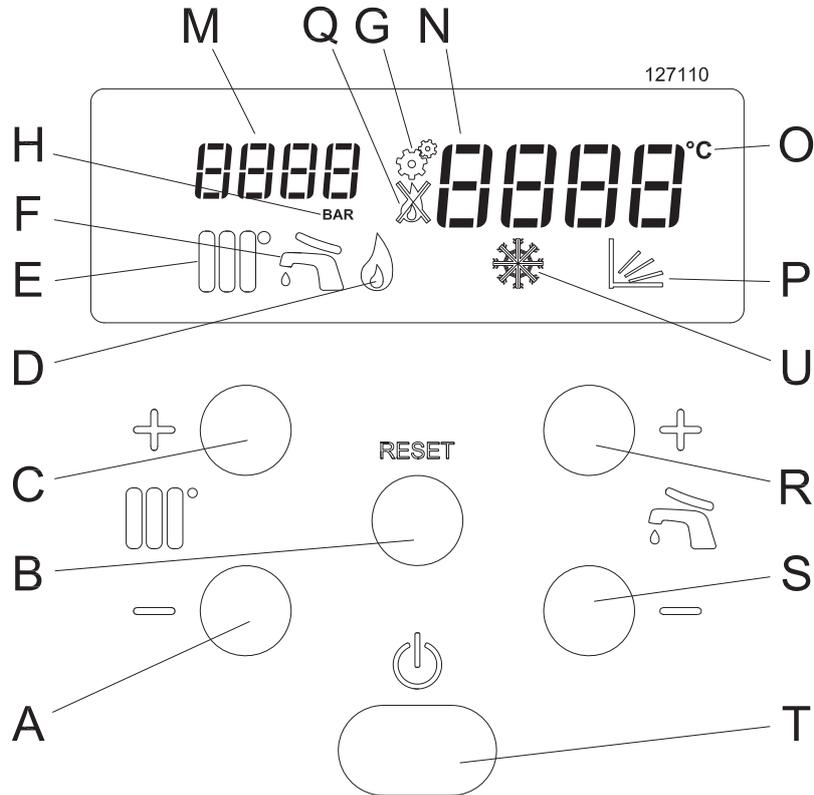

Figure 7-1 – Control board
Figure 7-1 key
If the pressure inside the central heating circuit drops below 0.8 bar, the display “N” in figure 7-1 shows the message
- 3.- Check the pressure on the display “M” in figure 7-1; it must reach a pressure of 1.3 bar - 1.5 bar (the **F I L L** message disappears on exceeding 1.1 bar);
The temperature of the domestic hot water is adjusted using the  and  keys. Once one of the two keys has been pressed, the display "N" in figure 7-1 starts to flash and show the temperature that is being set. The temperature of the domestic hot water can be set to between a range of 40°C and 60°C.
By pressing and holding the  key down even below 40°C, the message "OFF" appears to indicate that the domestic hot water service is being switched off. The icon "F" in figure 7-1 also switches off.